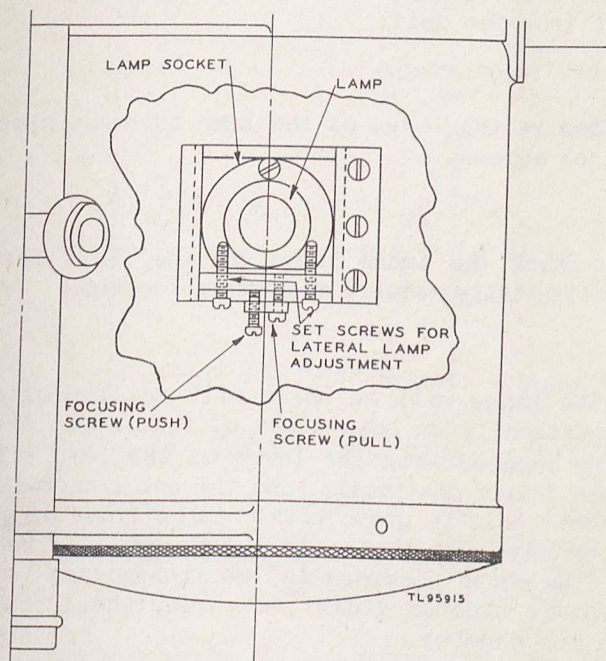

Figure 41. Lamp socket adjustments.
(1) The transmitter lamp is of the standard prefocused base type, and mounts in a socket provided with three standard mounting bosses which engage in the holes of the lamp mounting flange. The lamp socket can be moved in a direction parallel to the axis of the transmitter chamber by means of a push-pull screw arrangement (fig. 41). One screw must be loosened before the other can be taken up as they work against each other.
(2) The focusing adjustment is made in the following manner:
c. Lateral Lamp Adjustment. If the lamp is not properly centered in the transmitter chamber, a symmetrical diffraction pattern (fig. 26) will not be obtained. If the lamp is displaced to the right or left from its proper position, more light will be thrown to the right or left, respectively, of the image. To provide proper centering, the lamp can be pivoted about a screw at the front of the lamp socket (fig. 41) when the lateral lamp adjustment screws are released from their locking position. This adjustment is a cut-and-try procedure, as the transmitter chamber cover must be replaced after each adjustment, the modulator cell energized, and the light pattern observed. When the diffraction pattern is symmetrical, tighten the lateral adjustment set-screws against the body of the lamp socket. Again check the light pattern to make sure that the tightening of the set-screws has not shifted the position of the lamp socket.